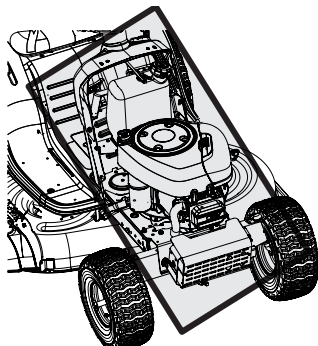

Figure 19
- Clean under the hood, including exhaust manifold, around fuses, all wiring and harnesses, muffler pipe, muffler shield, engine intake screens and cooling fins, etc. See Figure 19.